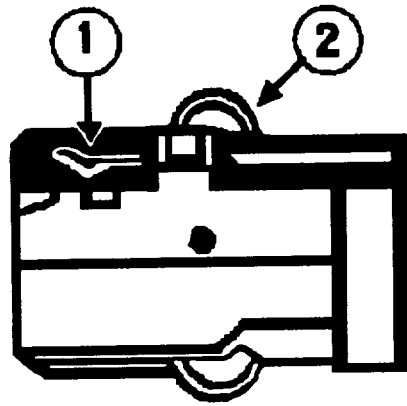

Figure 2-6. Extractor
f. Extraction. With the extractor (1), Figure 2-6, crimped around the extracting groove on the cartridge case, the rearward movement of the bolt head carrier allows the empty cartridge to be removed from the barrel extension during the recoil and compression of the locking rollers (2).